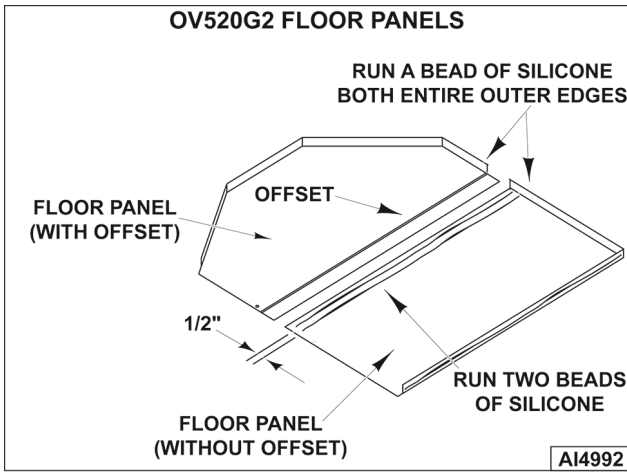

Fig. 50
3. Run a bead of high temp red silicone on the entire outer edge of both floor panels (Fig. 50).